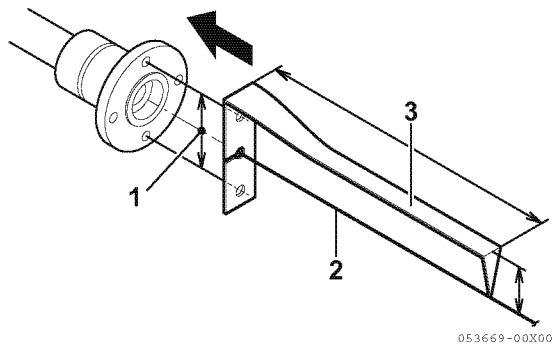

Figure 5-25
2. Slowly turn the propeller shaft. The alignment device (3, **Figure 5-25**) rotates around the center line (2, **Figure 5-25**). With the center line centered in the shaft (1, **Figure 5-25**), the amount of eccentricity is indicated by observing the end of the alignment tool relative to the center line.